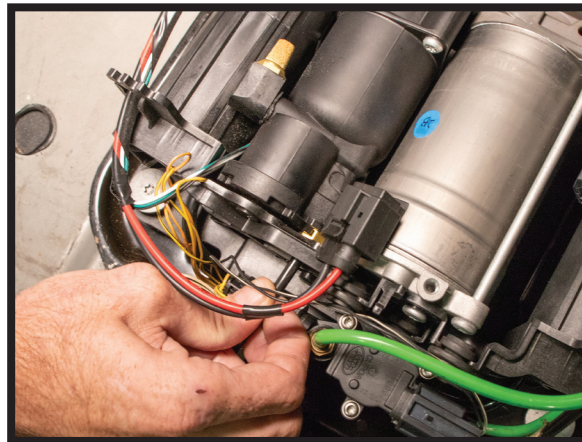

FIGURE 22
4. INSERT AIRLINE FROM THE VALVE BLOCK INTO THE AIR FITTING MAKING SURE IT IS PROPERLY SEATED. (FIGURE 22)